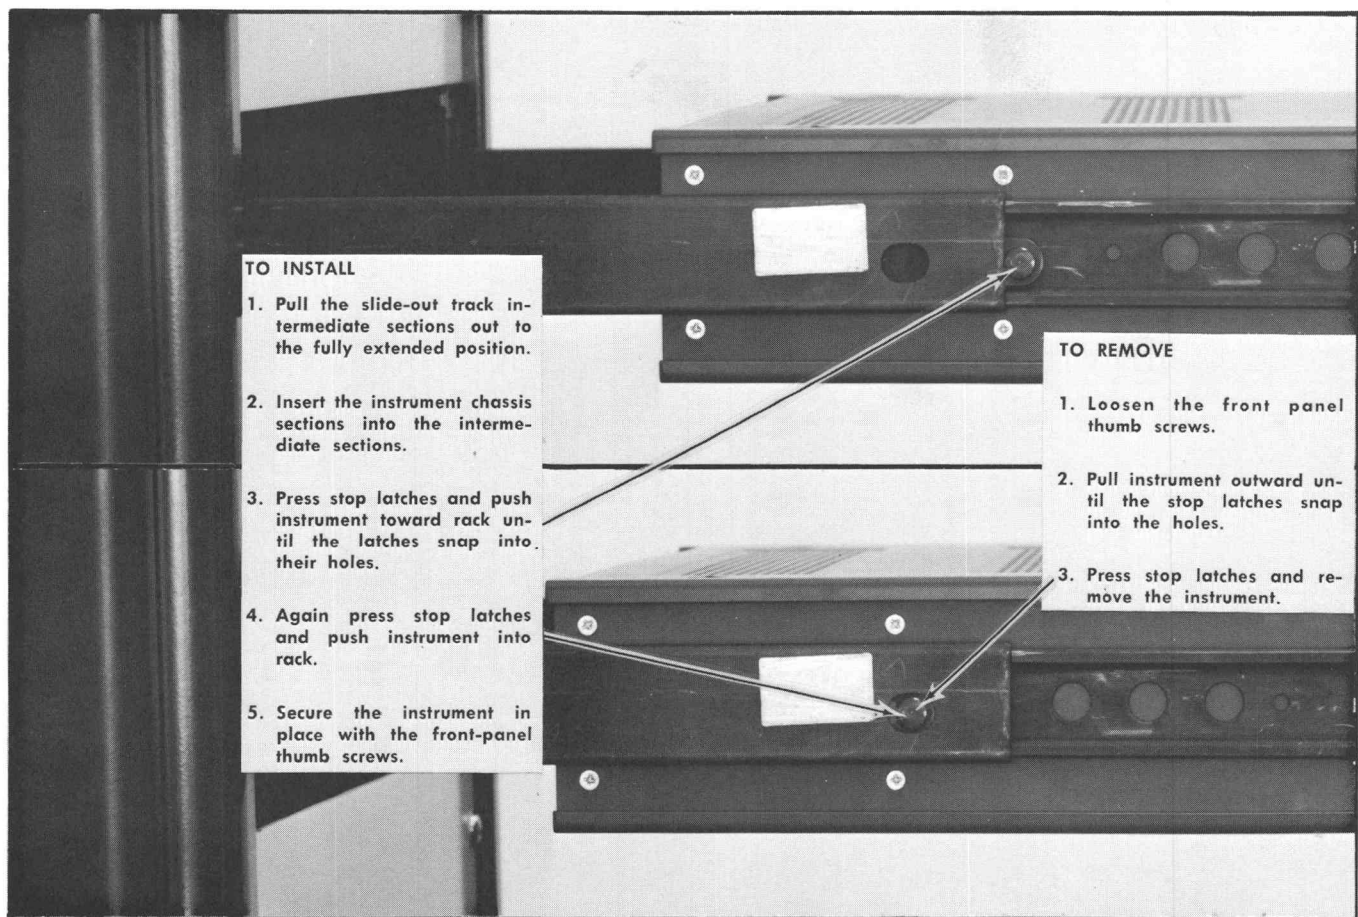

Fig. 6-7. Installing and removing the instrument.
1. Insert the instrument into the rack as described and as shown in steps 1 through 4 of Fig. 6-7 installation procedure.